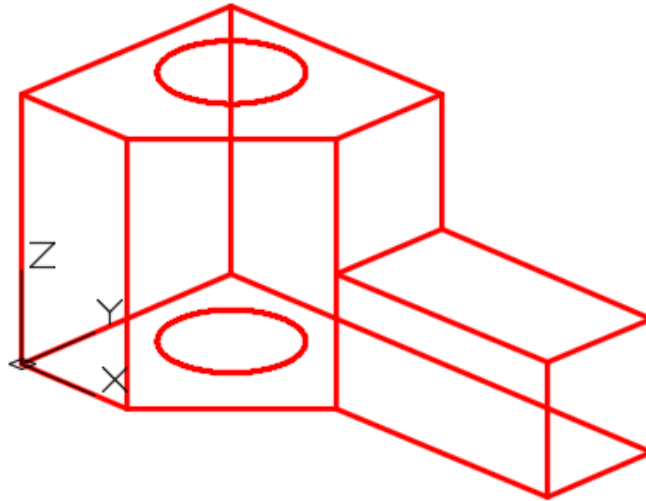

Figure Step 13
Step 13 Draw three lines between the ends of the existing lines. Ensure to snap to the ends of the existing lines. (Figure Step 13)